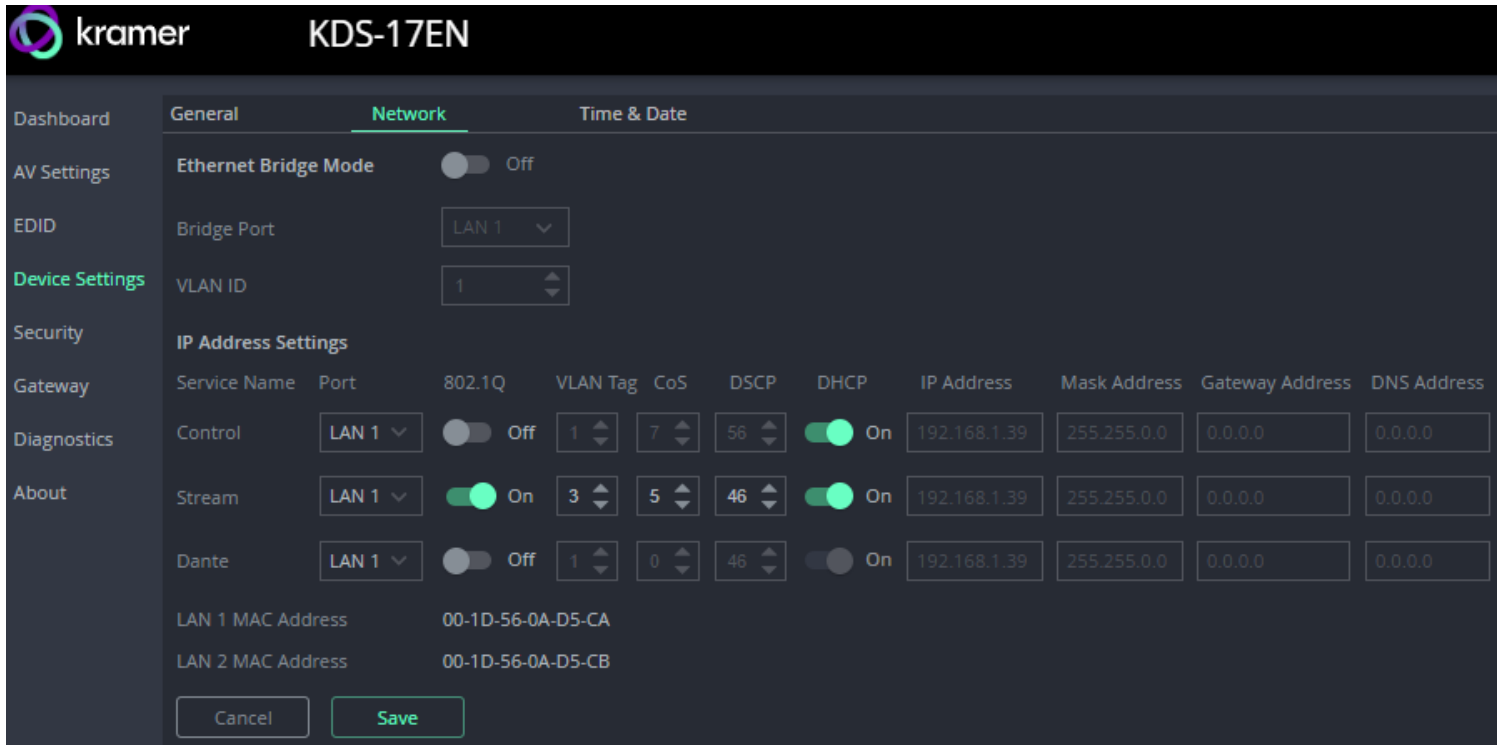

Figure 22: Device Settings pane – Network Tab
1. Change the following settings in the **IP Address Settings** section of the **Network** tab (see Figure 22 for more information):
2. In the KDS-17EN **Device Settings** pane, open the **Network** tab (see Figure 22):